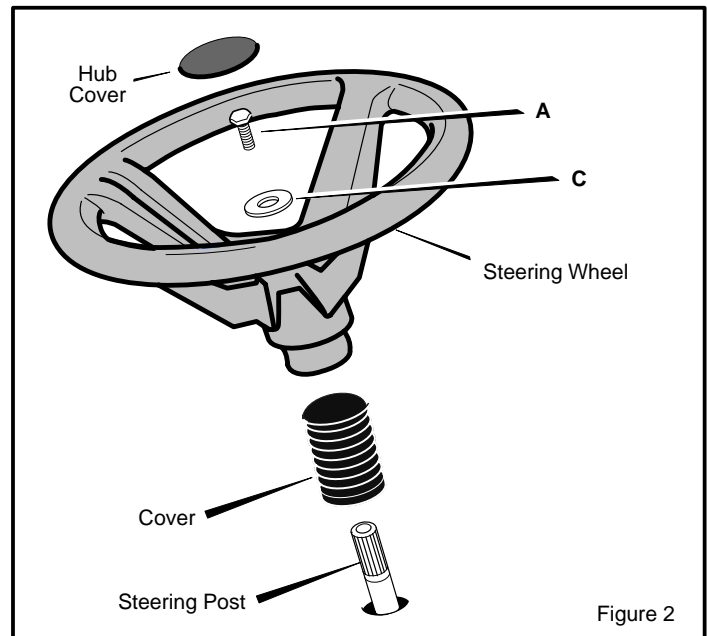

Figure 2
2. Slide the **cover** over the **steering post** (Figure 2).